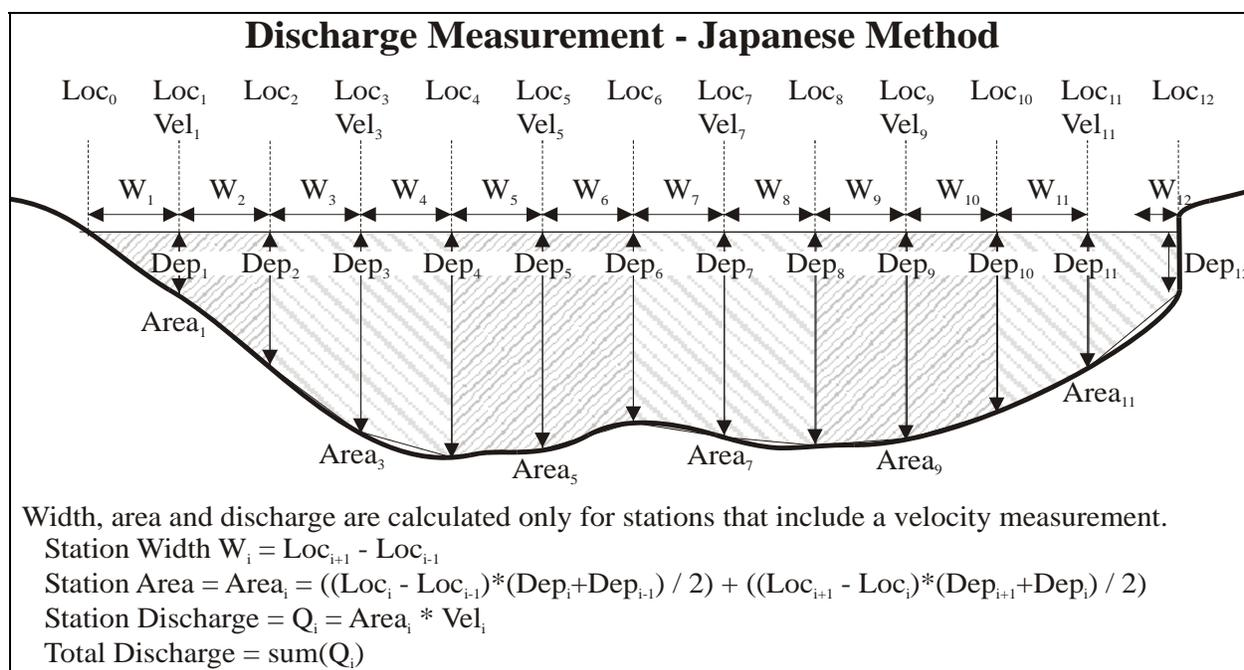

Figure 7 – Japanese Method Discharge Equation
- **Figure 7** shows the **Japanese** equation. In this figure: